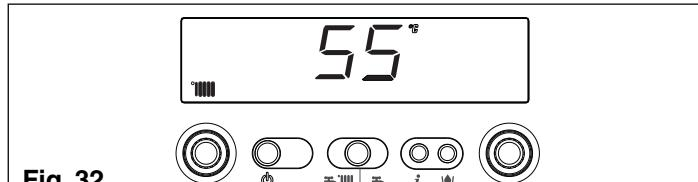

Fig. 32
**Info 3** shows the set heating temperature (fig. 32)